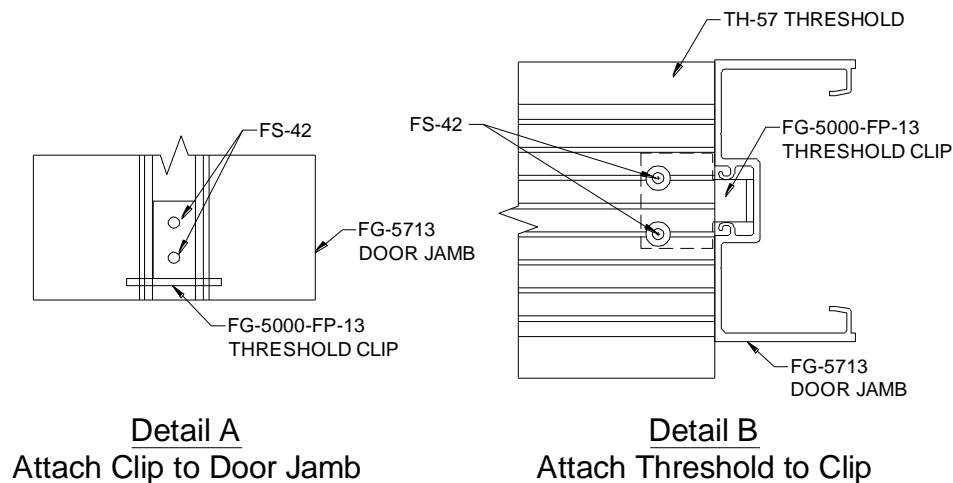

Figure 17: Attaching Threshold Clip
- 8.1 Attach the **FG-5000-FP-13** Threshold Clips to the **FG-5713** Door Jambs with (2) **FS-42** each. Reference Figure 17, *Detail A* as needed.
- 8.5 Set the Threshold in the sealant and secure to the Threshold Clips with (2) **FS-42** in each. Reference Figure 17, *Detail B* as needed.